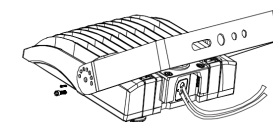

Fig. 9
1. Install two large screws (Fig. 9).